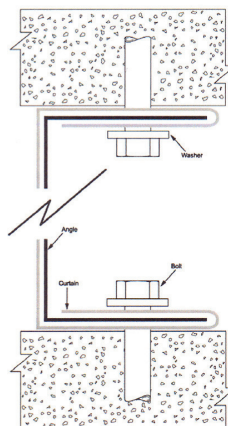

Figure 1
2. Fold edge of curtain around a mild steel framing angle with dimensions of 40 mm x 50 mm x 0.8 mm $\leq 1\text{mm}$. As shown in figure 1.
5. Secure the top perimeter framing angle, followed by fixing and side perimeter angles, as specified above. N.B. The curtain must cover three sides of the angle, as shown in Figure 1.